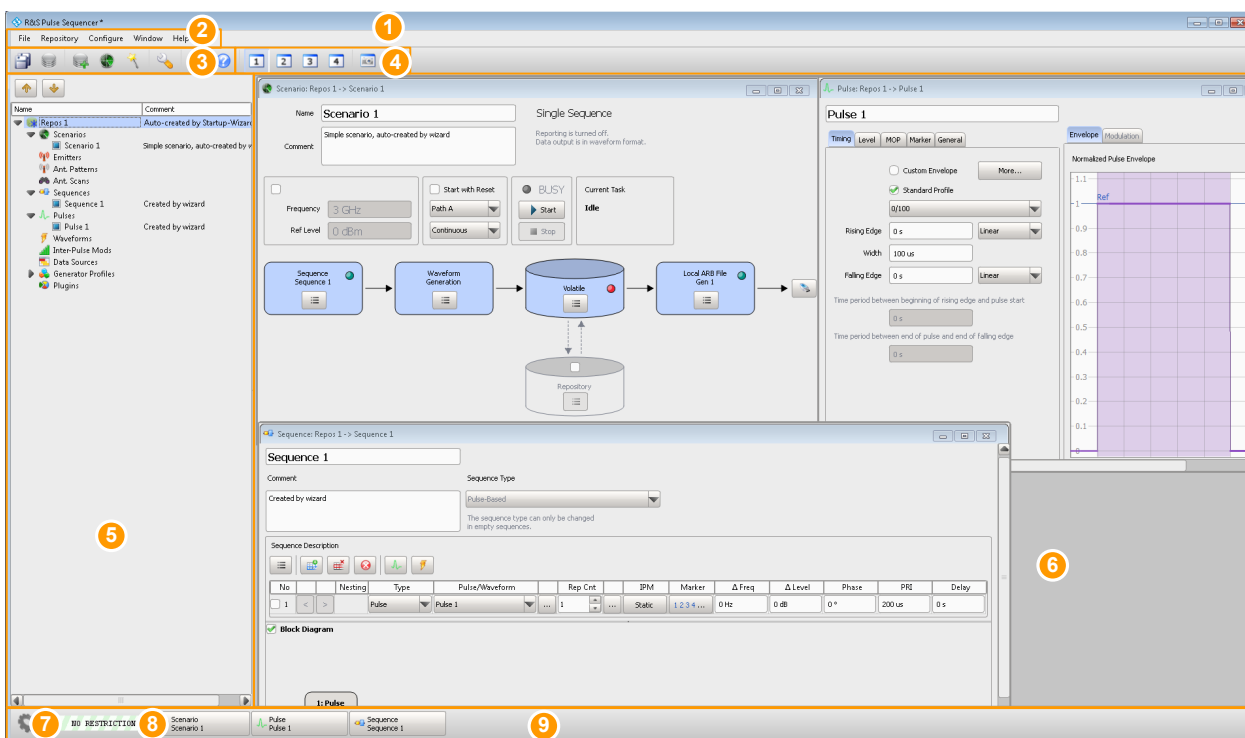

Figure 3-1: R&S Pulse Sequencer default workspace: understanding the displayed information
- Figure 3-1 (in Chapter 3.4, "Understanding the Displayed Information", on page 18)